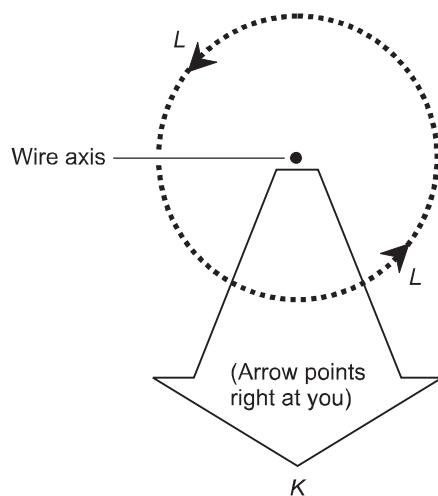

Fig. Exam-5. Illustration for Final Exam Questions 45 through 47.
45. Figure Exam-5 shows a current-carrying wire as viewed from right along its axis. The large, clear arrow marked *K* points directly at you, straight out of the page. The dashed circle represents
46. In Fig. Exam-5, suppose the magnetic flux flows counterclockwise. The conventional current
47. In Fig. Exam-5, what do the arrows marked *L* represent?